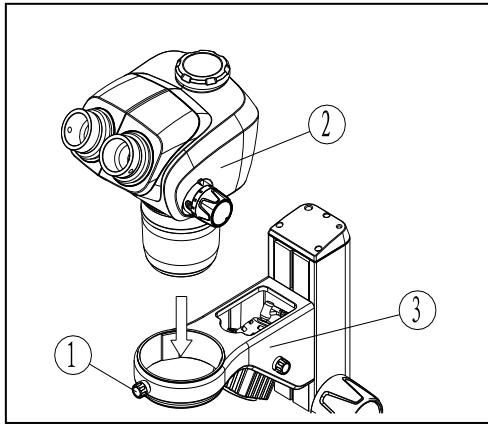

Fig 13
7.2.1 Main body Installation (Fig 13)